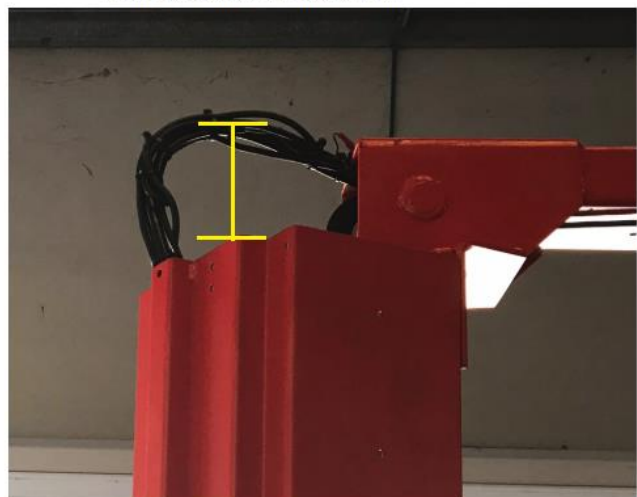

Figure 19
**NOTE!** It is important that the hydraulic hoses are pulled in and out through the position in top of post extensions in the same way as show for the cables on Figure 19.